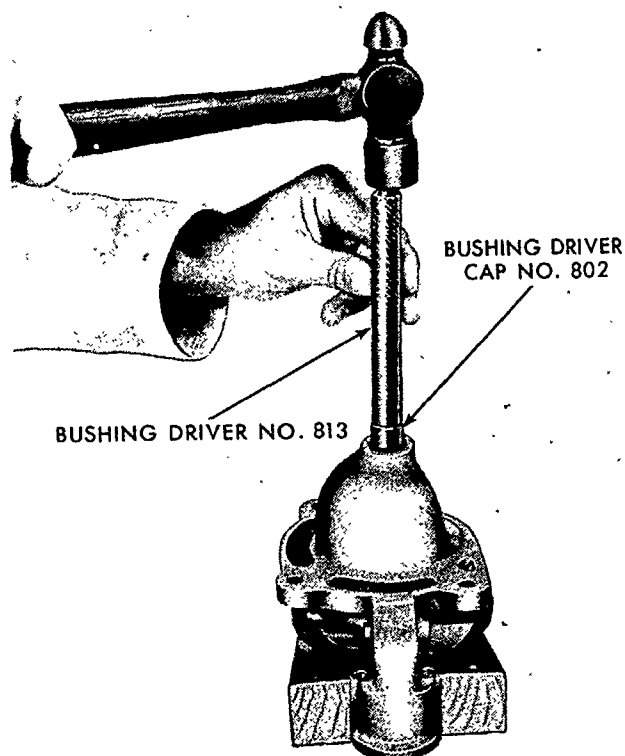

Figure 44
5. **Diesel Tractors:** Install the drive end housing bushing with Bushing Driver No. 813 and Bushing Driver Cap No. 802, Figure 44.